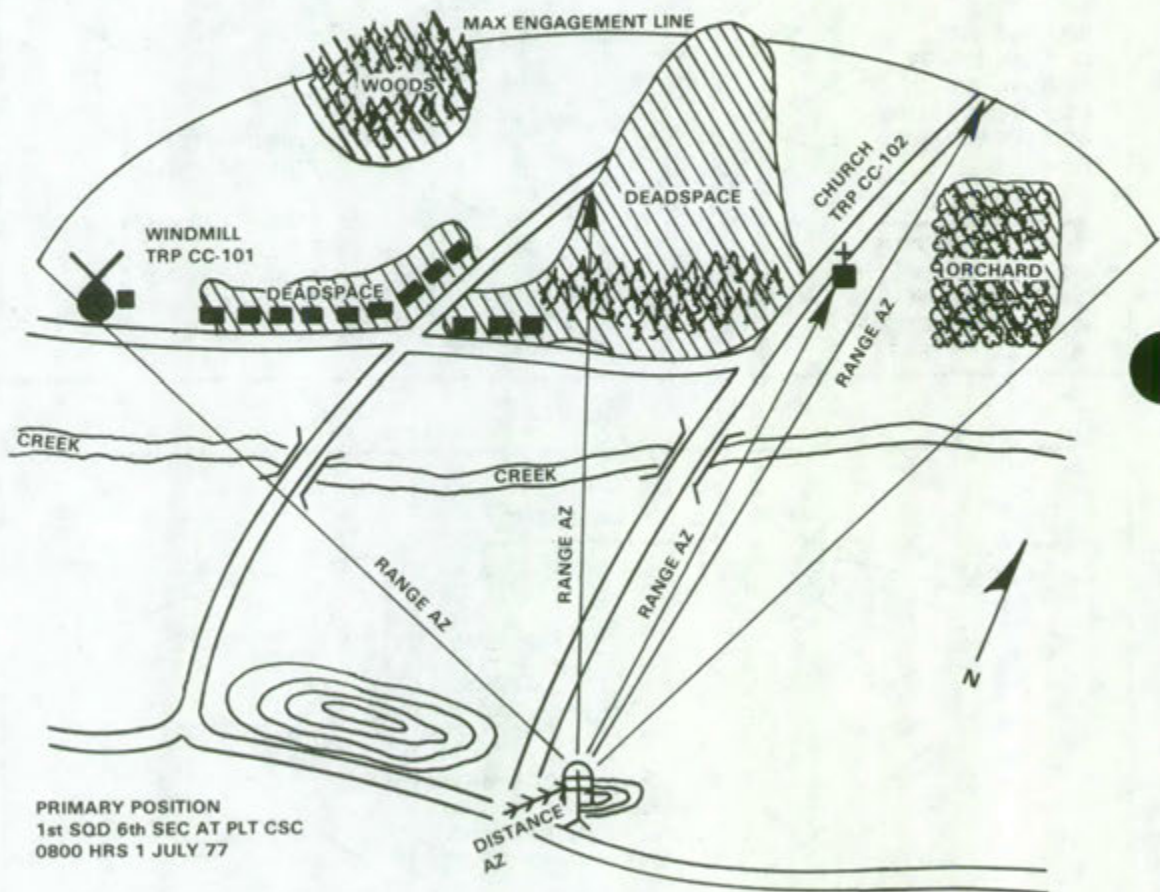

Figure 9.
(5) Orient the range card with the terrain and determine the direction of magnetic north with a compass. Draw a magnetic north arrow using the straight edge of the compass (figure 9).
(6) In a corner of your range card, place the following marginal data which is used by leaders to identify range cards:
(a) Unit description -- Never indicate your unit higher than your company. If your range card gets lost, the enemy will not be able to learn important military information if they find your range card (figure 9).
(b) Time and date of preparation (figure 9).
(c) Type position (primary, alternate, supplementary) (figure 9).